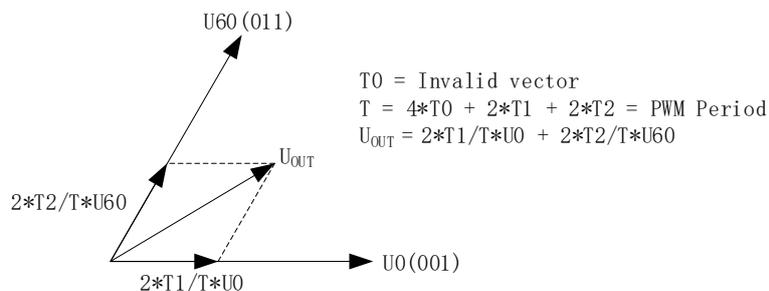

Figure 15-6 SVPWM Voltage Vector Synthesis
SVPWM uses the sum of two adjacent vectors to generate any voltage vector located in the voltage vector space. As shown in Figure 15-6, U_{OUT} is the desired vector and it is in the sector between U_{60} and U_0 . In defined PWM cycle (T), the effect, U_0 applied $2T_1/T$ time and U_{60} applied $2T_2/T$ time, is equivalent to the U_{OUT} . The rest of time (T_0) is applied by zero voltage vector.